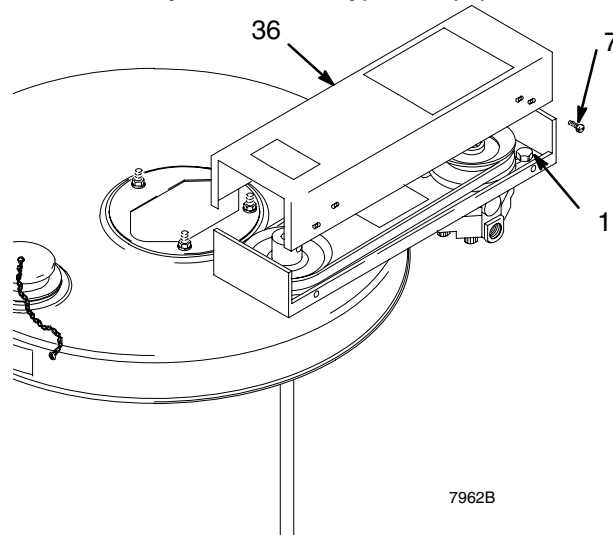

Fig. 2
Remove the screws (7) from the agitator cover (36). Loosen the motor mounting plate screws (1) and slide the motor (16) toward the mixer shaft (34). Remove the belt (18) from the pulleys (19). Remove the pulley from the mixer shaft (34) only. See Fig. 2.
Using the parts provided with the drum cover, attach the agitator base (39) to the drum cover so that the motor mounting plate rests over the side of the drum and the fluid lines can be attached easily without obstructing the drum openings, lines, etc. See Fig. 2 and your separate drum cover manual.